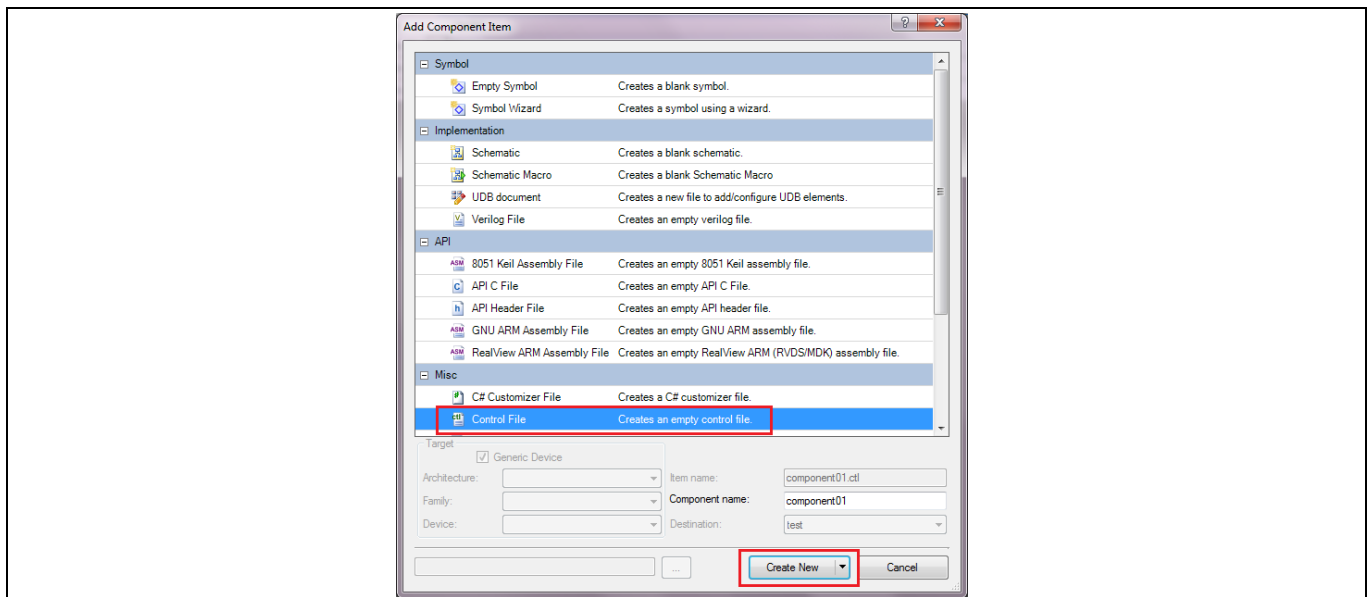

Figure 20 Adding the Control File
3. Scroll down to the **Misc** group, select **Control File**, and click **Create New**, as shown in Figure 20.